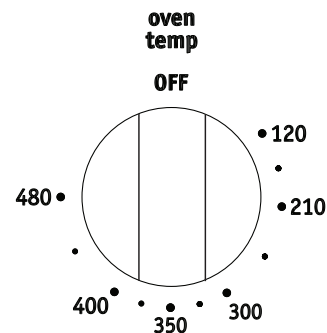

Figure 26: Oven temp knob
4. Turn the **oven temp** knob to the desired temperature setting (Figure 26).